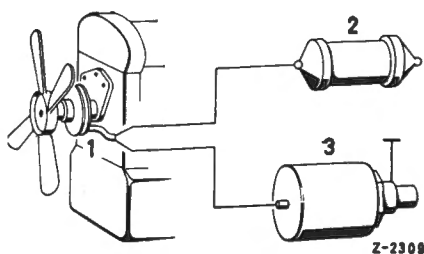

Fig. 20-10/2
2. Remove the front retainer ring from the fan shaft (1). Pull the fan hub (4) together with the clutch ring (6) and the insulating disk off the fan shaft by means of Puller Part No. 000 589 17 33 (Fig. 20-10/1). Before pulling off the fan hub remove the pressure piece from the puller.